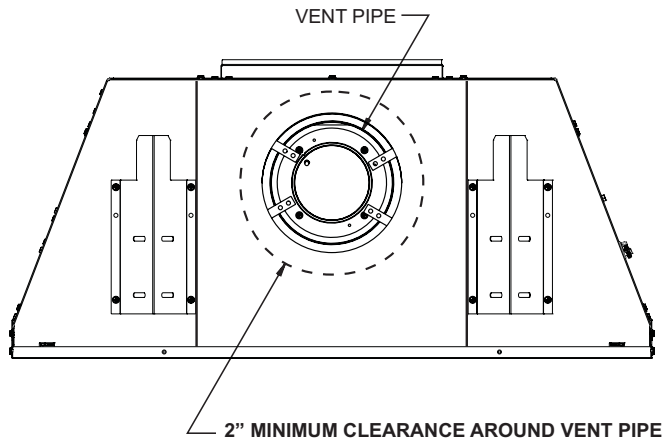

Figure 73
5. Install the Wall Firestop/Thimble assembly as required through the wall. Refer to the venting charts in the fireplace manual to determine the proper height and size of the vent opening. The minimum opening should be 11" wide by 11" high. The minimum combustible clearance from the horizontal vent is 2" from sides and bottom, and 3" above the vent pipe. **See Figure 73.**